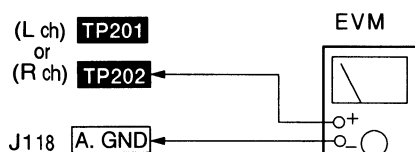

Fig. 7
1. Connect the measuring instrument as shown in Fig. 7